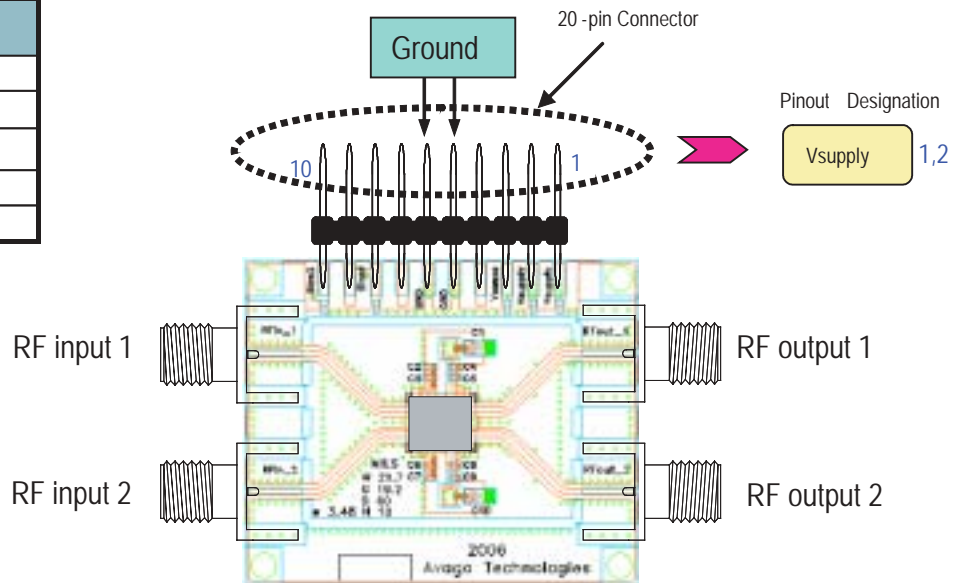

Figure 5. Demo Board Layout Diagram
$T_A = 25\text{ }^\circ\text{C}$, $V_{dd} = 5\text{V}$ @ $V_{ctrl} = 2.2\text{V}$, RF performance at 2.0 GHz, given for each of the 2 RF paths, measured on demo board (see Fig. 5) unless otherwise specified.
- Measurements at 2GHz obtained using demo board described in Fig 5.